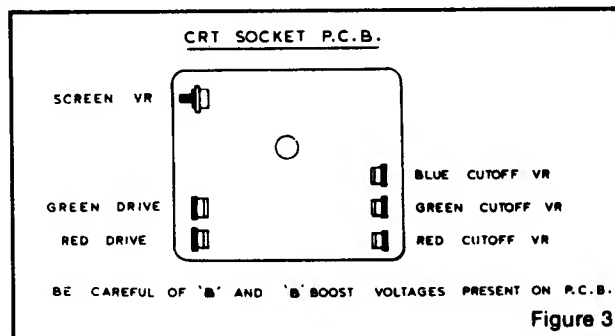

Figure 3
- 1.5 Turn off the green and blue fields and adjust setup controls to produce a red field. (See fig. 3)
- Refer to figure 3. Do the following in subdued light: